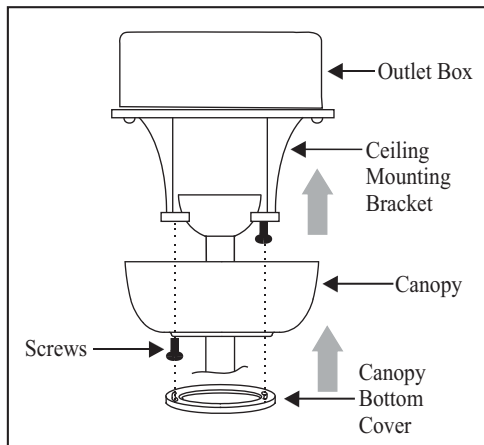

Figure 10
2. Slide the canopy up to mounting bracket and place the key hole on the canopy over the screw on the mounting bracket, turn canopy until it locks in place at the narrow section of the key holes. (Fig. 10)